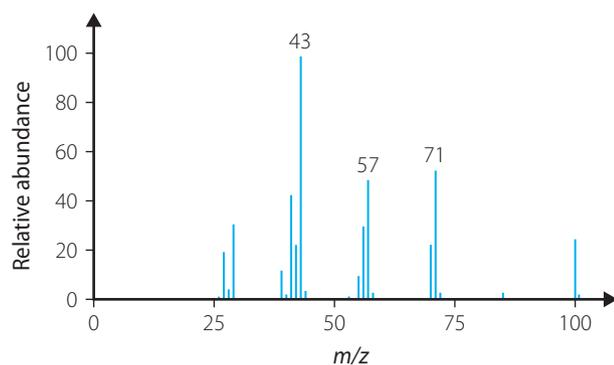

FIGURE 15.9 Mass spectrum for C_7H_{16}
- Figure 15.9 shows the mass spectrum for C_7H_{16} . Account for the main peaks in the spectrum.